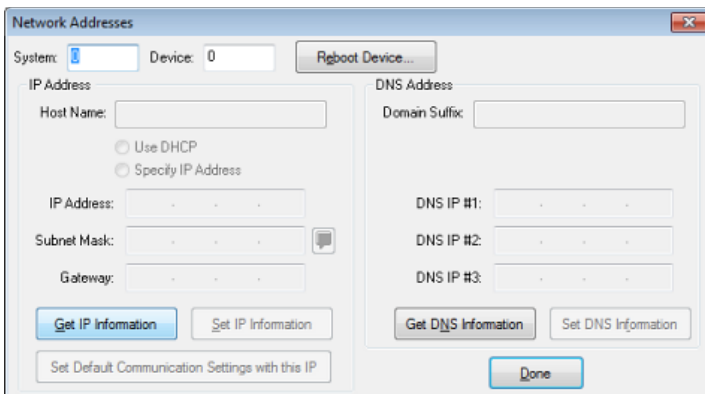

FIG. 15 NetLinX Studio: Network Addresses dialog
1. In NetLinX Studio, select **Diagnostics > Network Addresses** from the Main menu to access the Network Addresses dialog (FIG. 15).